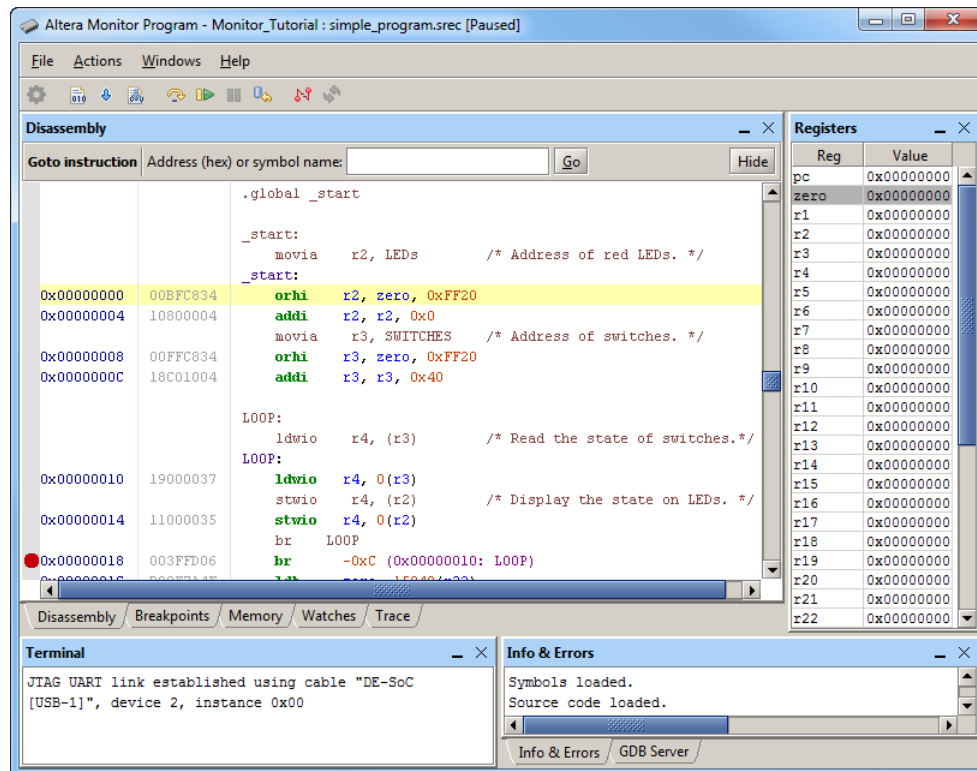

Figure 17. Setting a breakpoint.
- Click on the gray bar to the left of the address 0x00000018. As illustrated in Figure 17, the Monitor Program displays a red dot next to the address to show that a breakpoint has been set. Clicking the same location again removes the breakpoint.